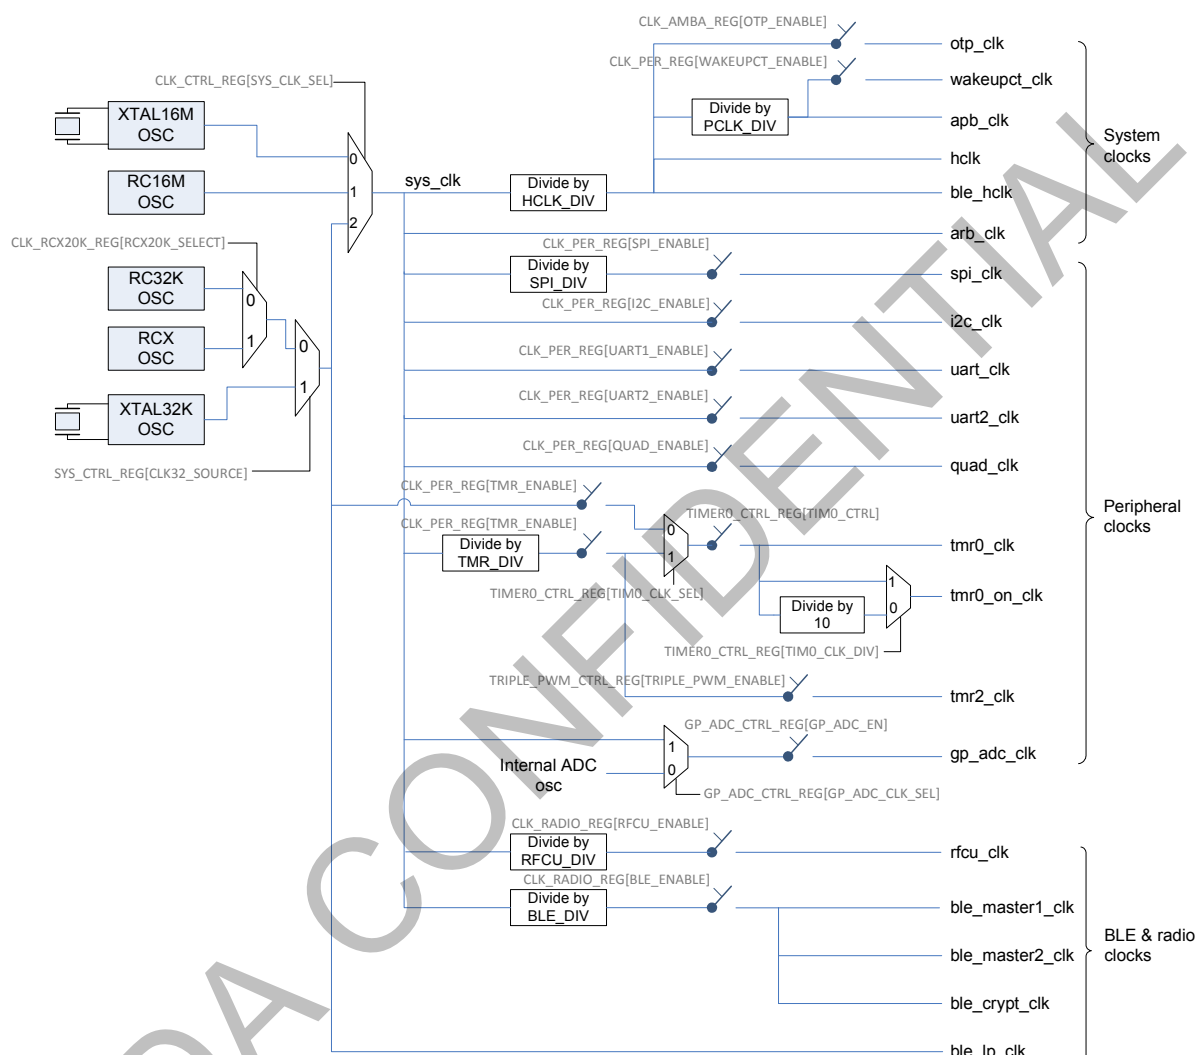

Figure 15: Clock Generation Block Diagram
The clock names depicted in Figure 15 are explained in the following table:
- When the SPI block is set to Slave mode, then the spi\_clk (as depicted in Figure 15) should be at least 4x the clock frequency provided by the external SPI Master. This is required for proper sampling of the data line.